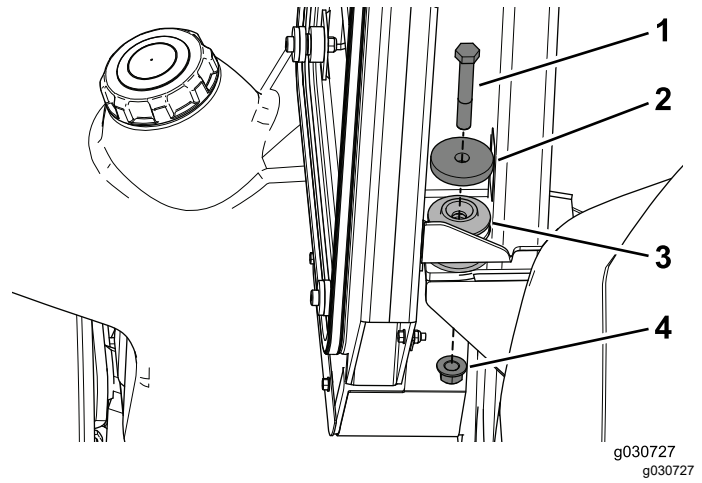

Figure 28
3. Use a bolt (1/2 x 3-1/4 inch), washer (2-1/4 inches), and locknut (1/2 inch) to secure the cab to the rear mounts on the machine (Figure 28).